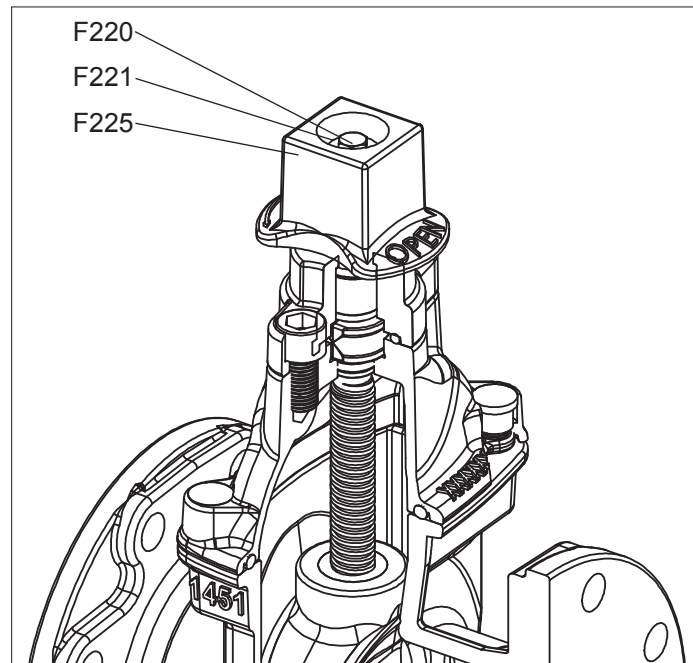

Fig. 3A
1. Remove the Wrench Nut Bolt (F220) and Wrench Nut Washer (F221) using a 1/2", (13mm) wrench, for 2 1/2" to 4" valve sizes, and 11/16", (17mm) wrench for 6" to 8" valve sizes. Remove the Wrench Nut (F225), and replace with a new one. (See Fig.3A)